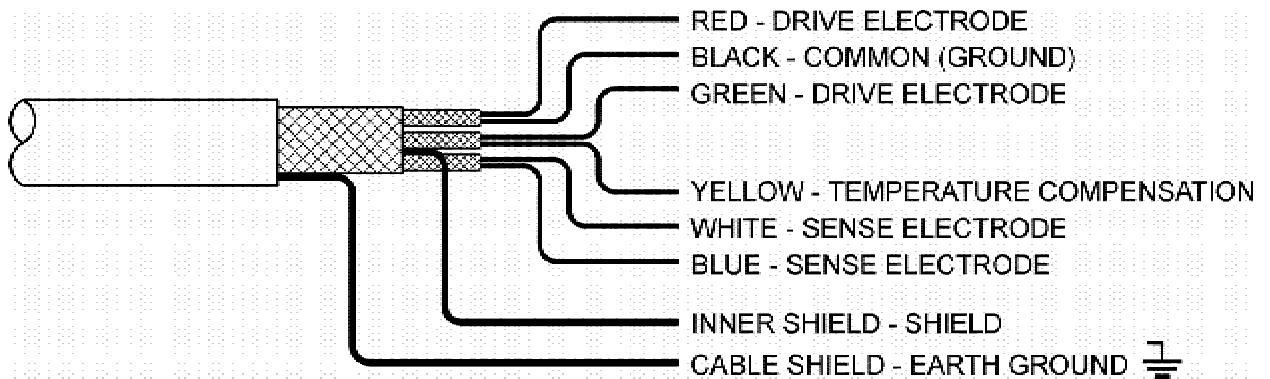
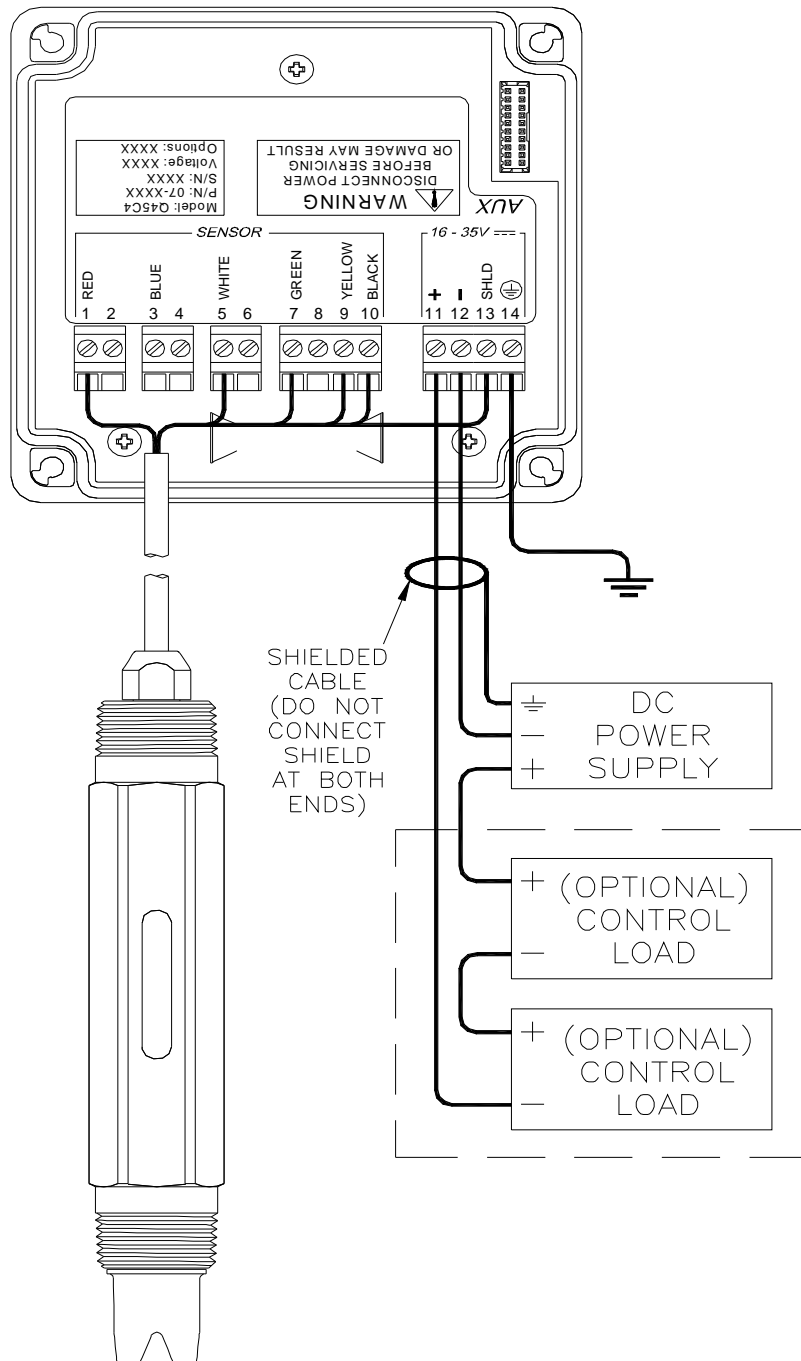

Figure 3-3 Cable Description, Model CDTX-45 Sensor
Figure 4-1 Loop-Power Connection, CDTX-45 Transmitter
Refer to Figure 3-3, Cable Description and Figure 4-1, Wiring Diagram for illustrative details on electrical installation.
1. Use wiring practices that conform to all national, state and local electrical codes. For proper safety as well as stable measuring performance, it is important that the earth ground connection be made to a solid ground point (Figure 4-1). The AC power supply contains a single 100mA (115V) or 50mA (230V) slo-blo fuse. The fuse **F1** is located adjacent to **TB5** and is easily replaceable.
In the two-wire configuration, a separate DC power supply must be used to power the instrument. The exact connection of this power supply is dependent on the control system into which the instrument will connect. See Figure 4-1 for further details. Any twisted pair shielded cable can be used for connection of the instrument to the power supply. Route signal cable away from AC power lines, adjustable frequency drives, motors, or other noisy electrical signal lines. Do not run sensor or signal cables in conduit that contains AC power lines or motor leads.
Sensor connections are made in accordance with Figure 4-1. The sensor cable can be routed into the enclosure through one of cord-grips supplied with the unit. Routing sensor wiring through conduit is only recommended if a junction box is to be used. Some loose cable is needed near the installation point so that the sensor can be inserted and removed easily from the flowcell.